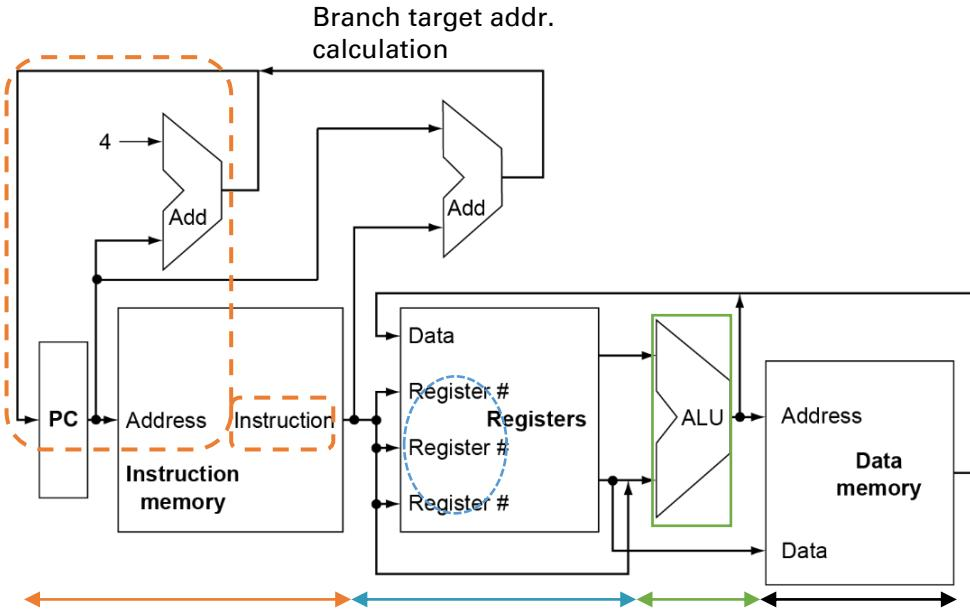
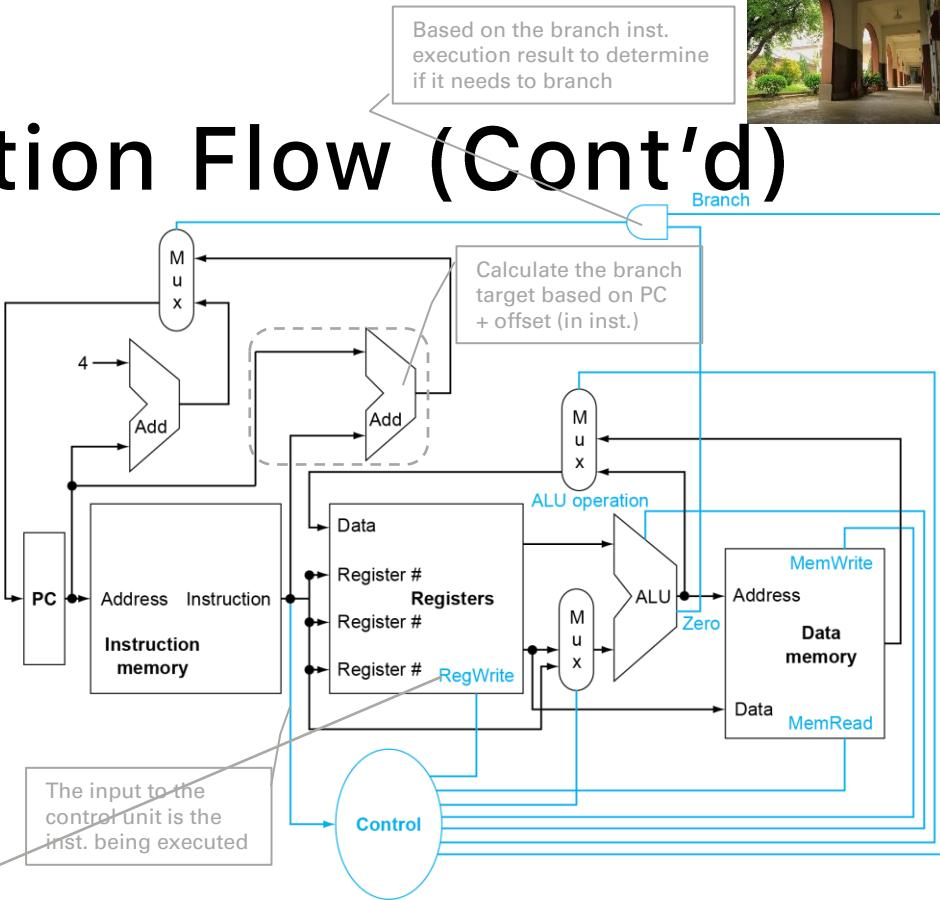

FIGURE 4.1 An abstract view of the implementation of the RISC-V subset showing the major functional units and the major connections between them.
FIGURE 4.2 The basic implementation of the RISC-V subset, including the necessary multiplexors and control lines.
- Fig. 4.1 focuses on functional units and their interconnection
➤ Fig. 4.2 gives the details for the three **Mux**
- Fig. 4.2 adds the multiplexors and control unit on Fig. 4.1